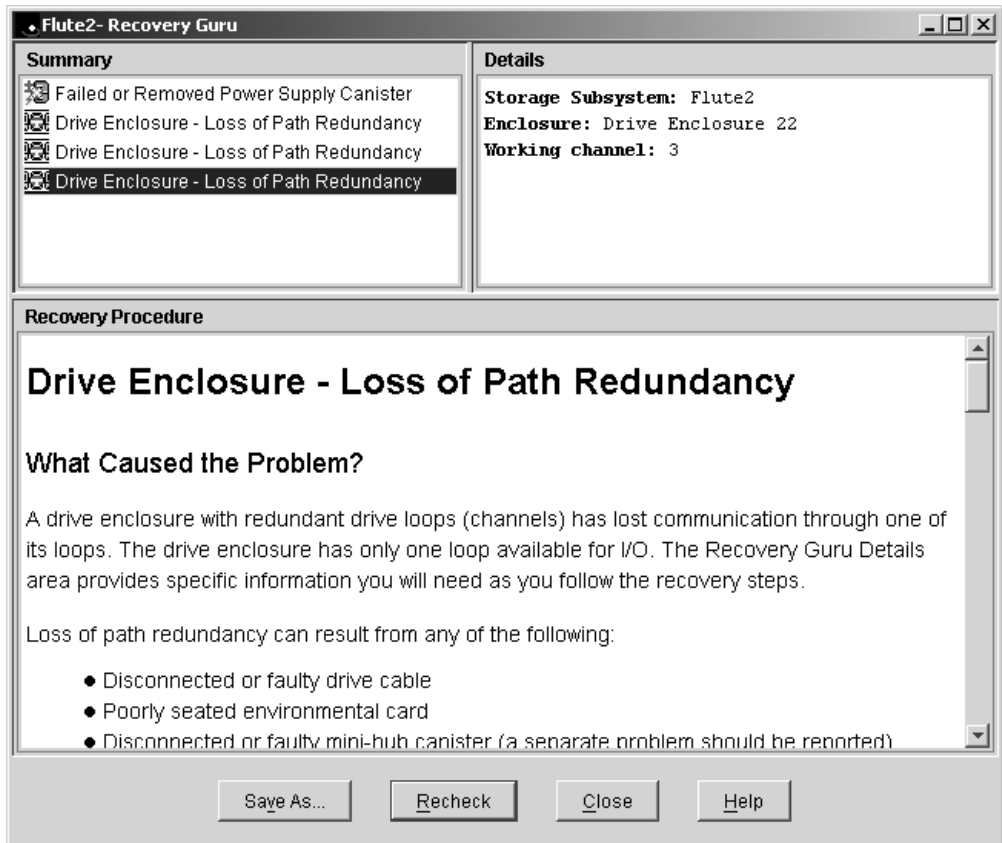

Figure 156. Recovery Guru - Loss of path redundancy
**Note:** Figure 156 on page 350 also shows the message Failed or Removed Power Supply Cannister. However, this message is not significant here because the power supply was removed for purposes of illustration.